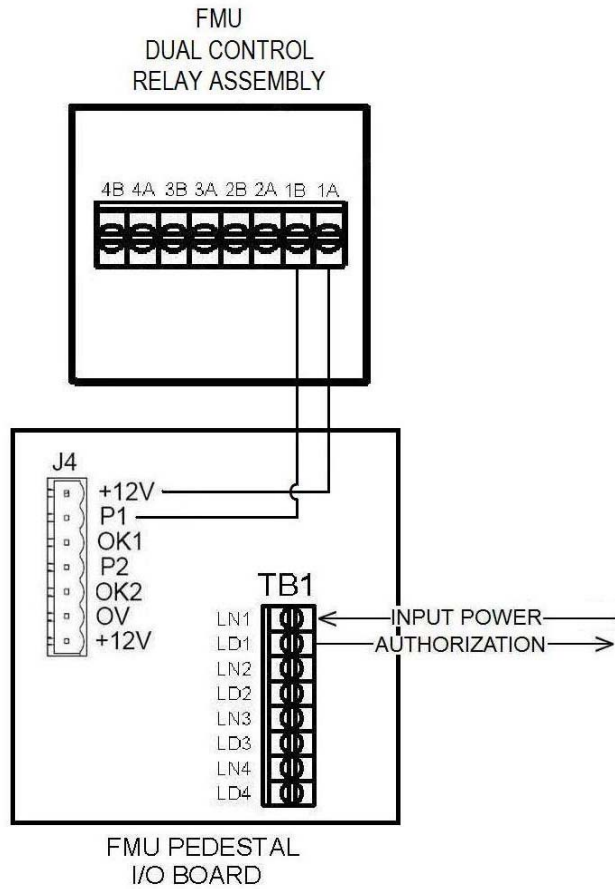

Figure 4-15. Generating Pulse with Dual Control Relay Assembly
- a) **Using Dual Control Relay Assembly (DCRA) to Generate Pulses.** A DCRA may be used with either an AC or DC momentary signal, and can switch two positions with each authorization. Figure 4-15 illustrates how a DCRA may be wired to use an AC or DC input on LN to send a momentary on LD, and also apply a 12VDC pulse to P1. Care must be given to not exceed 2 amps on any controlled device. Repeat this wiring configuration for each FMU hose position used.